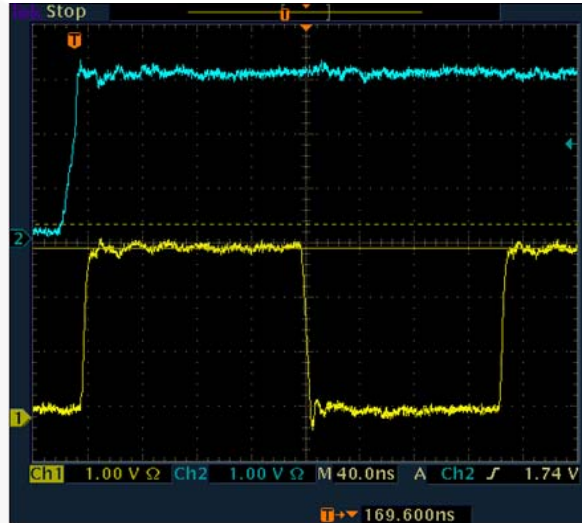

Figure 14. Scope Shot of I/O and Clock Signals
Due to open-drain technology, hosts and SIM cards do not use push-pull drivers on the I/O pin. Logic LOWs are pulled down (I_{sink}), while logic HIGHs are “let go” (3-state). During a logic LOW on the I/O pin, both series NpassGates are turned on and act like a very low resistive short between the host and the SIM card. When the host or card lets go of a previously held LOW on the I/O pin, the rise time is largely determined by the RC time constant, where R is the external pull-up resistor and C is the I/O signal trace capacitance. The value of R_{PU} is to be chosen to not exceed 1 mA maximum I_{OL} per IOS7816-3 compliance testing. The FXLA2204 acts as a very low resistive short between the host and SIM card (during a LOW) until either of the port's $V_{CC/2}$ thresholds are reached. After the RC time constant has reached the $V_{CC/2}$ threshold of either port, the port's edge detector triggers both dynamic drivers to drive their respective ports in the LOW-to-HIGH (LH) direction, accelerating the rising edge. The resulting rise time resembles the CH2 waveform (blue) of Figure 14. Effectively, two distinct slew rates appear in the rise time. The first slew rate (slower) is the RC time constant of the I/O signal trace. The second slew rate (faster) is the dynamic driver accelerating edge.